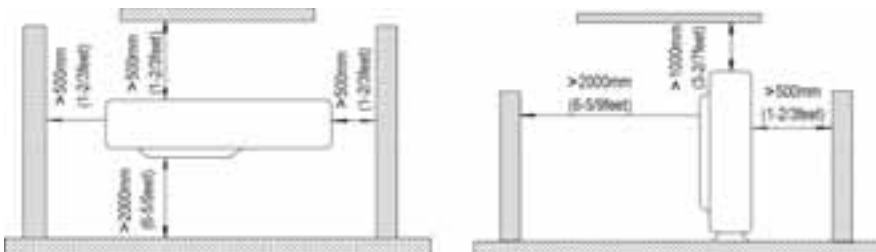

Fig. 3.2
- ①. Install the unit where it will not be tilted by more than 5°.
- ②. The outdoor unit should be securely mounted to withstand high wind..
- (1). If possible, do not install the unit where it will be exposed to direct sunlight. (If necessary, install a blind that does not interfere with the air flow.)
- (2). Install the outdoor unit in a place where it will be free from dirt or rain as much as possible.
- (3). Install the outdoor unit where it is convenient to connect the indoor unit.
- (4). Install the outdoor unit where the condensate water can be drained out freely during heating operation. Do not place animals and plants in the path of the warm air.
- (5). Select a location where noise and vibration will be tolerated.
- (6). Check the support structure to verify that it has sufficient load-carrying capacity to support the weight of the unit. Mount the unit securely to reduce vibration noise. .
- (7). Provide the space shown in Fig. 3.2, so that the air flow is not blocked. Also for efficient operation, leave three of four directions of peripheral constructions open.